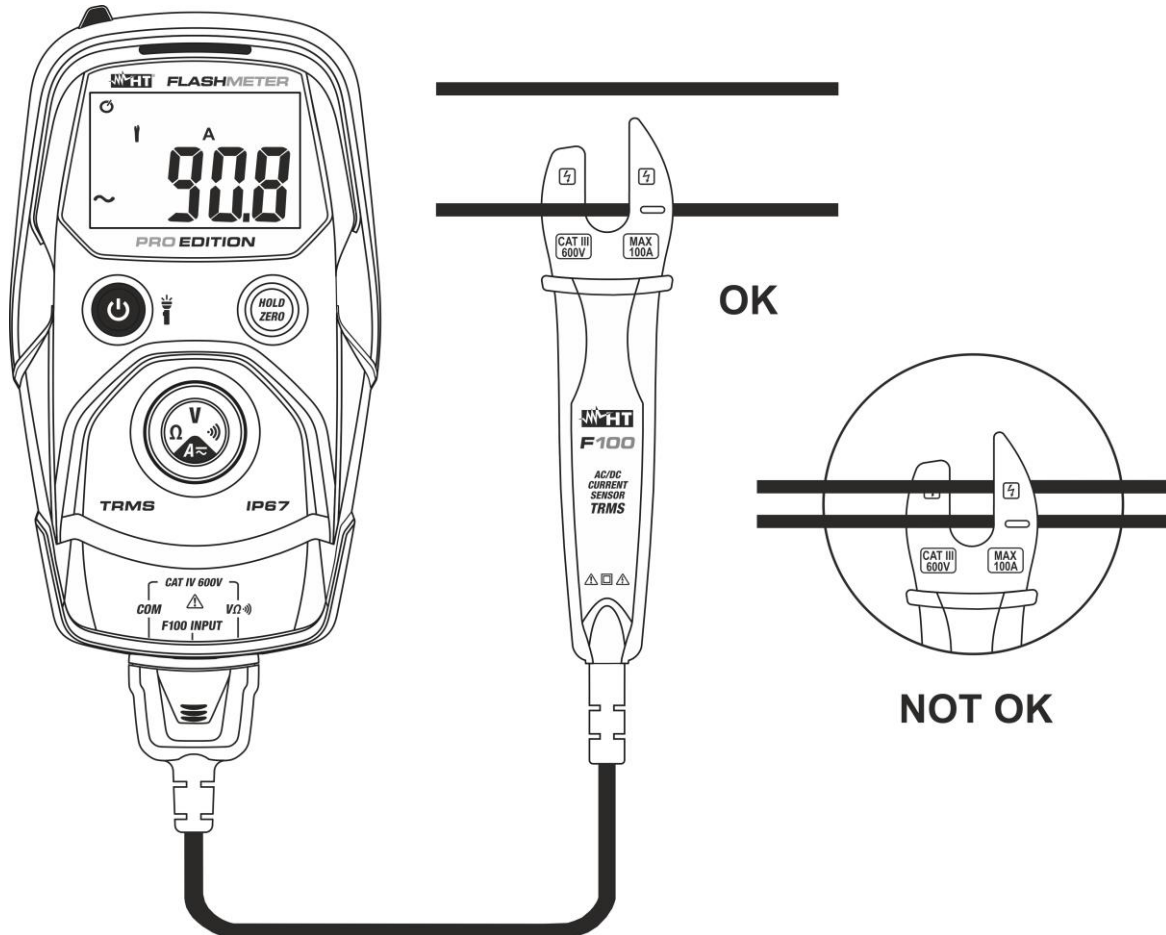

Fig. 7: Use of the instrument for AC/DC Current measurement
4. Connect the F100 clamp on the cable under test (see Fig. 7) paying attention to the arrow "" symbol inside the toroid to indicate the positive direction of the current. Positioning the cable in the center of the clamp to obtain an accurate measurement result. The current value is shown on the display
5. When symbol "-" appears on the instrument's display, it means that current has the opposite direction with respect to the connection of Fig. 7